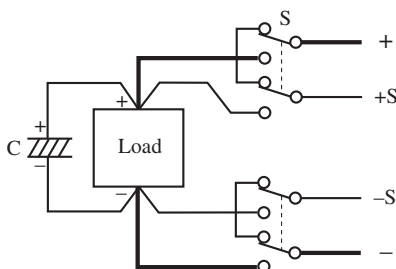

Fig.3-7 Power on/off using mechanical switches
- To turn on/off the power supplied to a load using a mechanical switch, provide additional switches between the sensing wires as shown in Fig.3-7 and turn on/off the power and remote sensing cables simultaneously. Be sure to turn off the OUTPUT switch or POWER switch before turning on/off the mechanical switch.